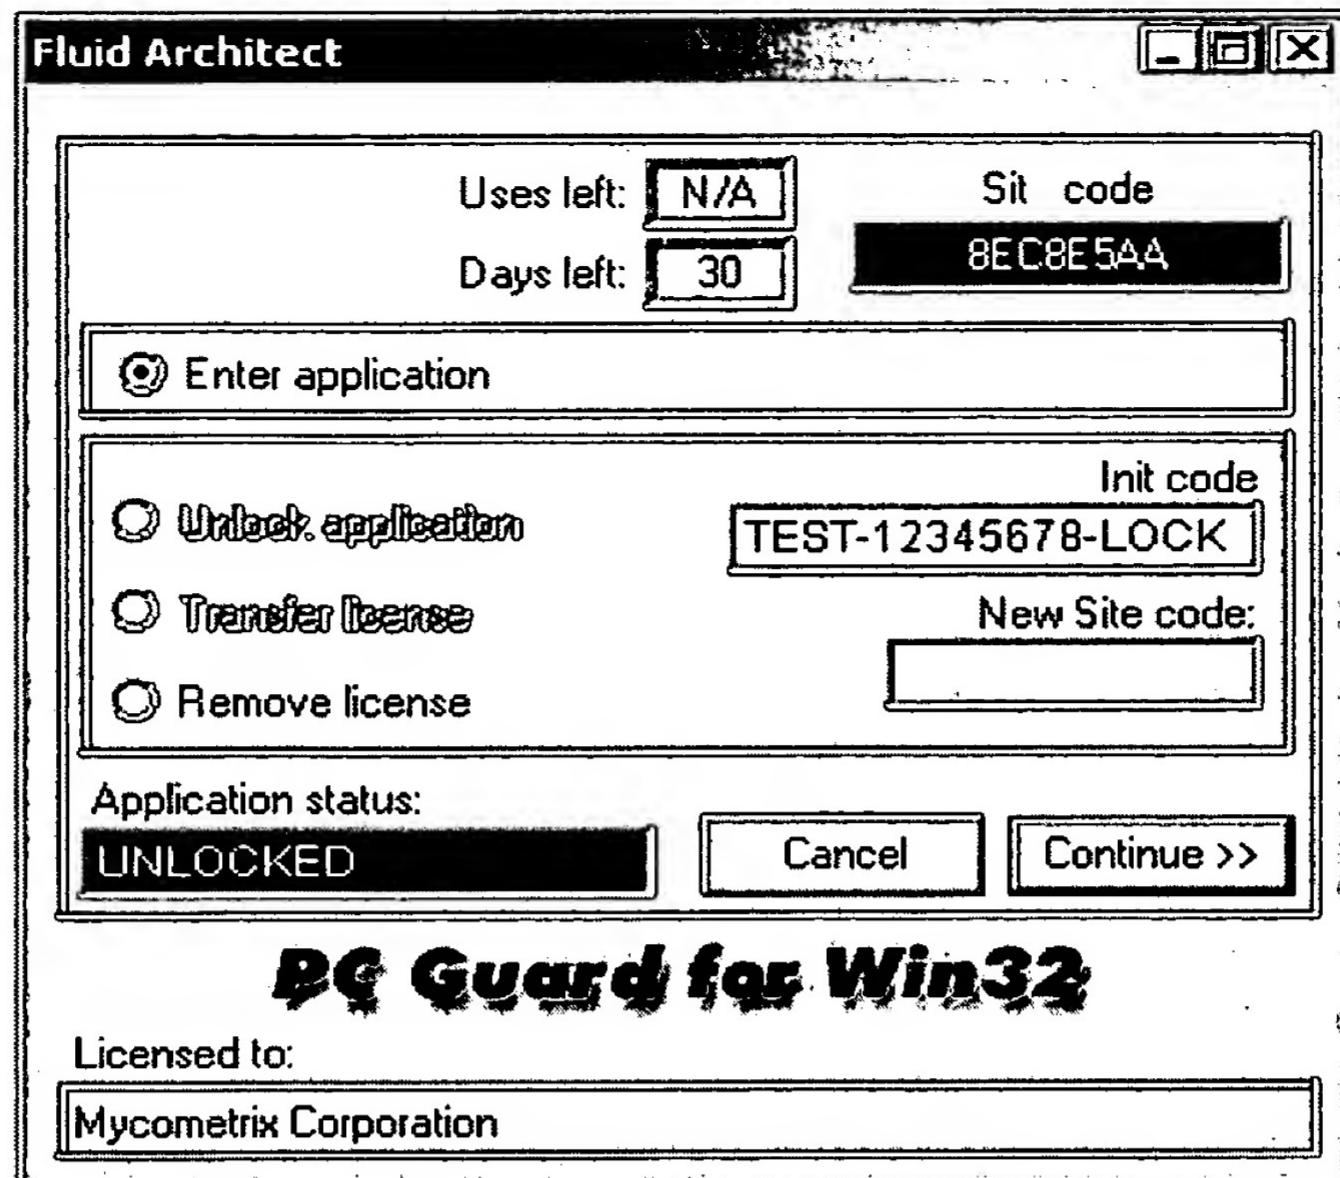

Figure 2 – Dialog to Enter the Init Code
2. Enter the 16 digit alphanumeric string EXACTLY as it is shown in the email including the “-“ character which separates the strings. See Figure 2. In this case the Init code of *TEST-123455678-LOCK* was entered.